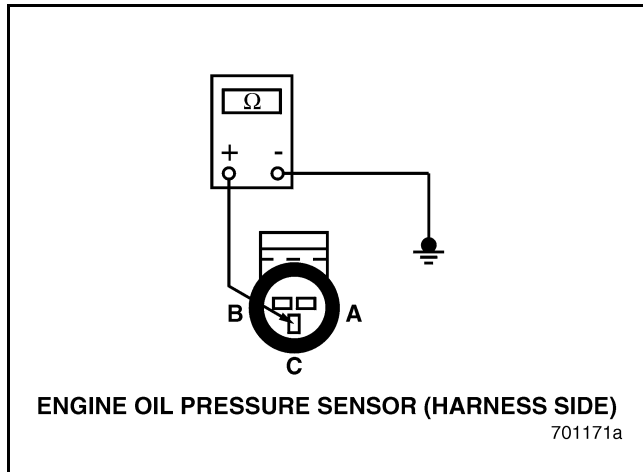

Figure 12
2. Check for continuity between Engine Oil Pressure (EOP) Sensor harness connector pin C (signal line) and a good ground (see Figure 12).